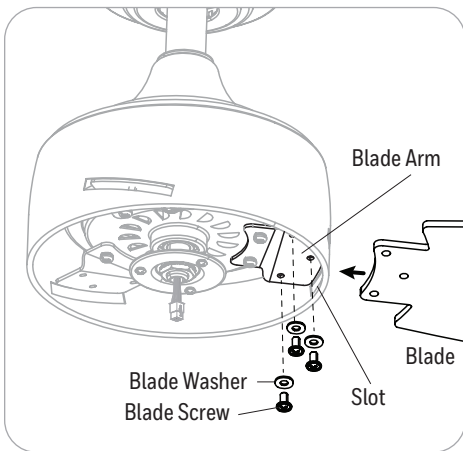

Figure 5.4
4. Insert each blade through a slot in the the side of the motor assembly. Align the holes of the blade with the holes in the blade arm. Secure each blade with the three blade screws and blade washers (Figure 5.4).